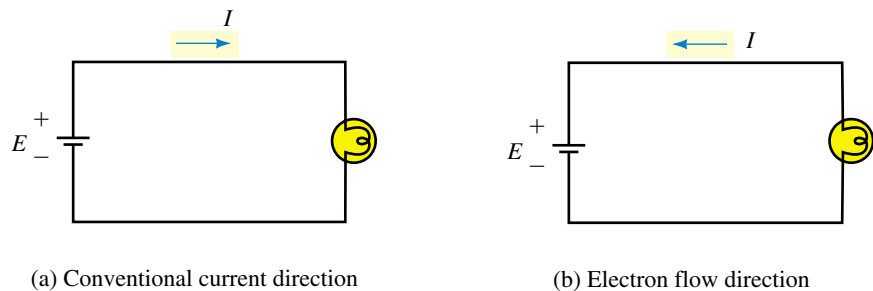

FIGURE 2–11 Conventional current versus electron flow. In this book, we use conventional current.
2. After the switch of Figure 2–1 is closed, current $I = 4$ A. How much charge passes through the lamp between the time the switch is closed and the time that it is opened 3 minutes later?
In the early days of electricity, it was believed that current was a movement of positive charge and that these charges moved around the circuit from the positive terminal of the battery to the negative as depicted in Figure 2–11(a). Based on this, all the laws, formulas, and symbols of circuit theory were developed. (We now refer to this direction as the **conventional current direction**.) After the discovery of the atomic nature of matter, it was learned that what actually moves in metallic conductors are electrons and that they move through the circuit as in Figure 2–11(b). This direction is called the **electron flow direction**. However, because the conventional current direction was so well established, most users stayed with it. We do likewise. Thus, *in this book, the conventional direction for current is used.*
2. Briefly describe the mechanism of voltage creation using the carbon-zinc cell of Figure 2–8 to illustrate.
3. When the switch in Figure 2–1 is open, the current is zero, yet free electrons in the copper wire are moving about. Describe their motion. Why does their movement not constitute an electric current?
5. For Figure 2–1, assume a 12-V battery. The switch is closed for a short interval, then opened. If $I = 6 \text{ A}$ and the battery expends 230 040 J moving charge through the circuit, how long was the switch closed?